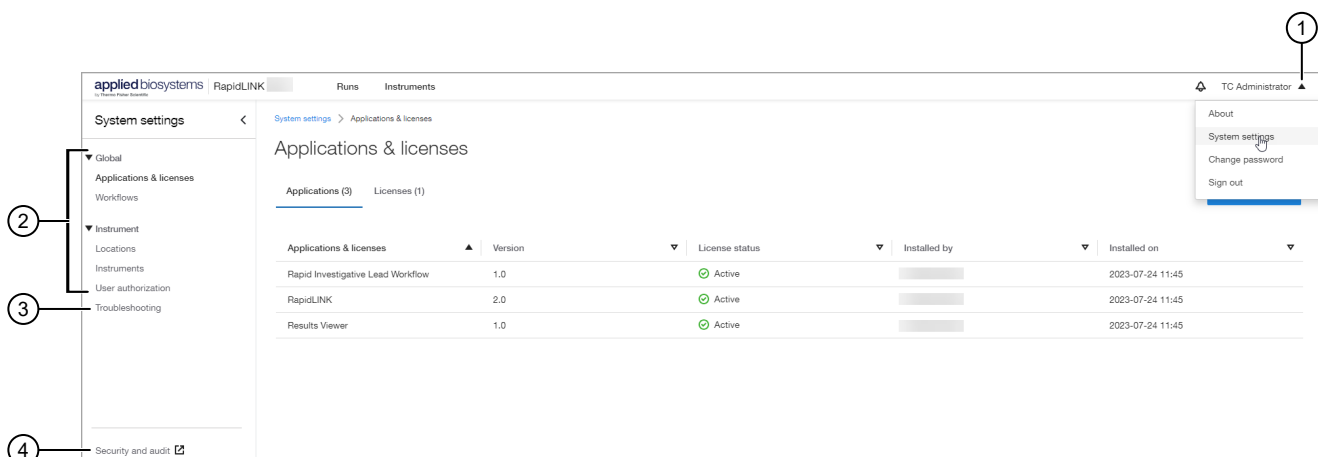

Figure 15 System settings dashboard
2. Depending on your user role permissions, you can use the dashboard tools to perform the functions shown in Figure 15.